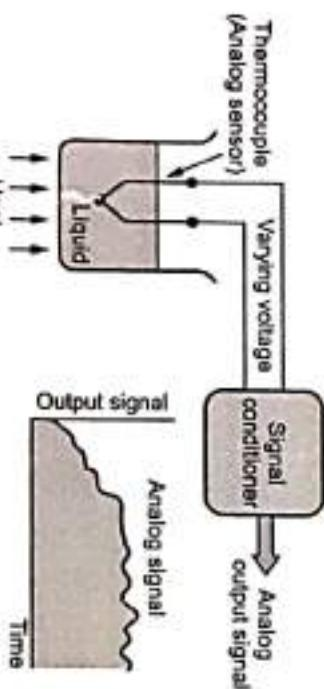

Fig. Q.6.1 Example of analog sensor
- Fig. Q.6.1 shows the example of analog sensor. Here, The thermocouple continuously responds to temperature changes as the liquid is heated up or cooled down.